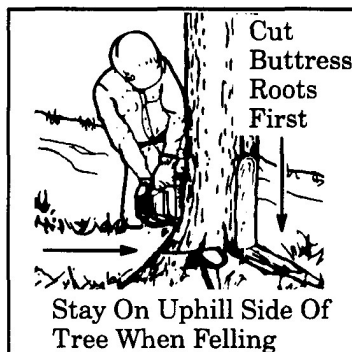

Figure 17
- Plan to stand on the up-hill side** when cutting on a slope. Figure 17.